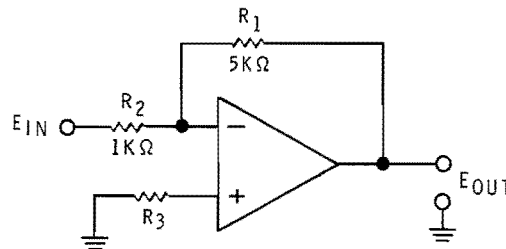

Figure 3-52
38. (feedback) Figure 3-52 shows an inverting amplifier. The op amp amplifies the signal at the "-" input. The signal at this point is determined by  $E_{IN}$  and a feedback voltage from  $E_{OUT}$ . Since the feedback voltage is out of phase with  $E_{IN}$ , the signal at the "-" input will be extremely small. In fact, compared to other values involved, the voltage at the "-" input can be considered \_\_\_\_\_.